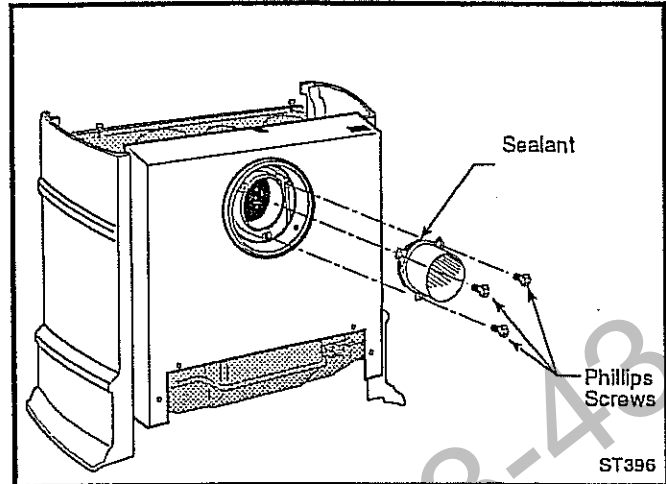

Fig. 39 Apply sealant to the starter pipe, and fasten it with three Phillips screws.
1. Apply high-temperature sealant to the outside of the male end of the vent starter pipe provided with the firebox. Install the starter pipe in the exhaust outlet on the back of the firebox. Fasten it in place with three Phillips-head screws. (Fig. 39)